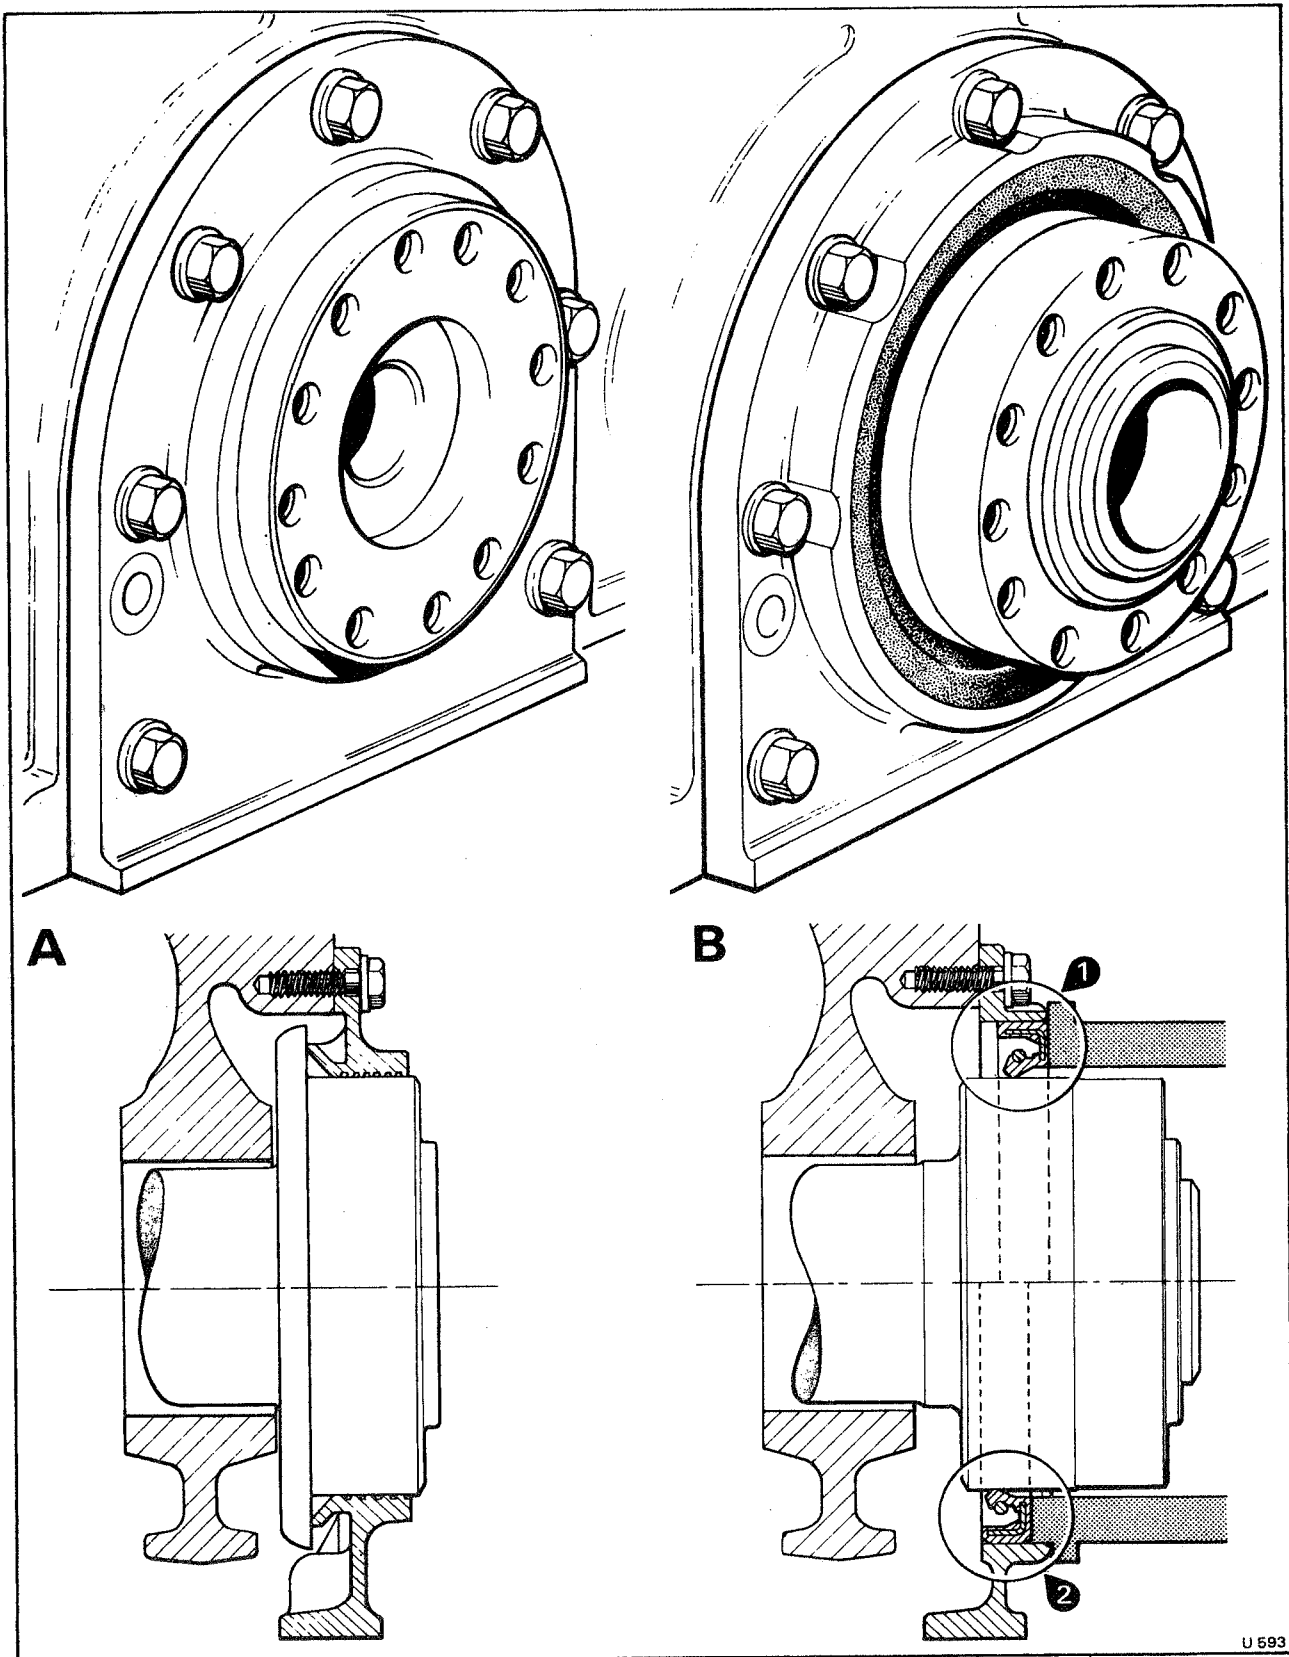

Fig. E6 Crankshaft rear seal arrangement
Oil flingers are fitted to the front and rear (except late engines) of the crankshaft to prevent oil leakage. The rear oil flinger is pressed onto the shaft and rotates inside a recess on the rear end backplate (on late engines the rear flinger is superseded by a 'lip' type of oil seal) as shown in Figure E6. At the front of the crankshaft there are two oil flingers that rotate inside recesses machined in the front half lower casing (on late engines a 'lip' type of oil seal is fitted).
20. Withdraw the flywheel assembly and adapter [on late engines the adapter is an integral part of the crankshaft (see Fig. E6)].